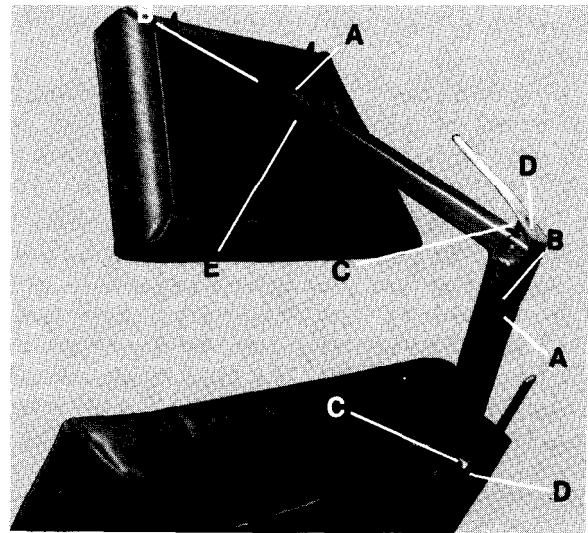

Fig. 1
Model 119: To adjust the holding action of the headlock, release the lock handle and loosen the lock screw Item A, Fig. 1, using a 3/32" allen wrench. With a 3/16" allen wrench or a 1/2" wrench, tighten the adjusting screw, Item B, Fig. 1, to obtain the greatest possible holding power without making the handle operation too difficult. Then with the handle in locked position, tighten the lock screw.
For proper action the handle stop must be adjusted so that when the handle is pushed down for locking action, the handle reaches a point where it wants to lock itself by suddenly going over center. The proper position of the stop is just a fraction over center. The stop is adjusted by loosening the lock nut Item C, Fig. 1 and turning the set screw stop Item D, Fig. 1 with a 1/8" allen wrench. After adjustment, lock the stop screw with the lock nut.
- 1) Remove the (4) screws, Item E, Fig. 1, which mount the headrest to the brackets of the headlock.